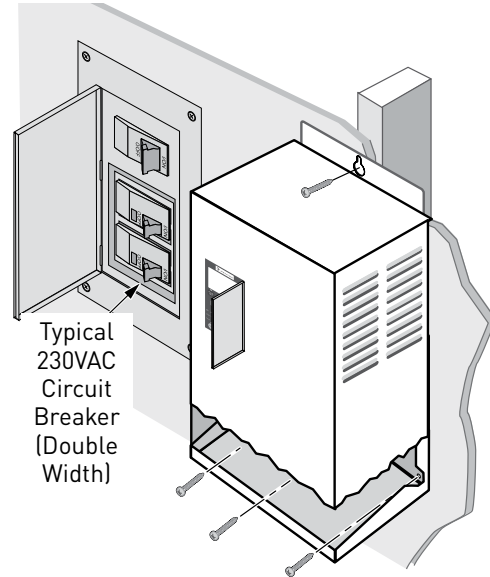

Figure 6 - Attaching Drive to wall
To mount the Drive as shown in Figure 6, follow this procedure:
4. With the cover removed, permanently mount the Drive using the top slotted hole, plus either the three bottom holes (for flat surface mounting) or the center bottom hole (for attaching to a post or stud). See Figure 6.
5. Ensure the Drive's ventilation holes are not blocked and there is enough space around it to allow free air flow (minimum 3" clearance on top, bottom, and sides). See Figure 6. Once the Drive is mounted, electrical wiring can be connected.